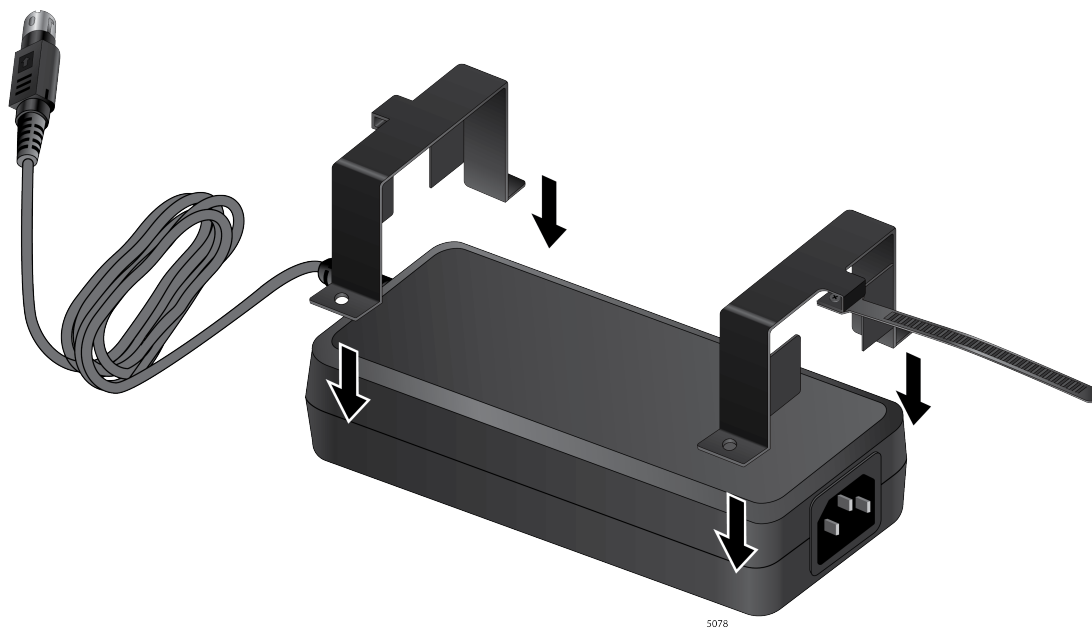

Figure 14. Aligning the Brackets to the Power Adapter
7. Align the brackets on the power adapter as shown in Figure 14 on page 28.